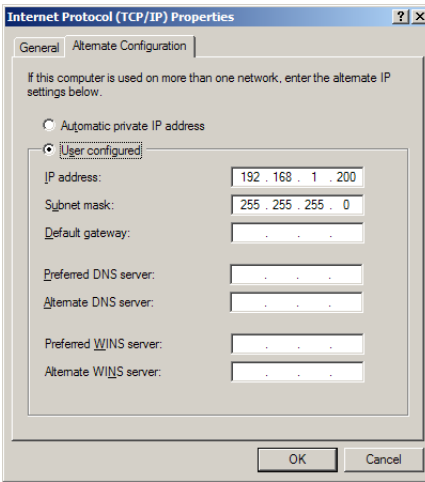

Figure 7-5 Alternate Configuration Settings
5. Select the Alternate Configuration tab. Click the “User Configured” option. See Figure 7-5.